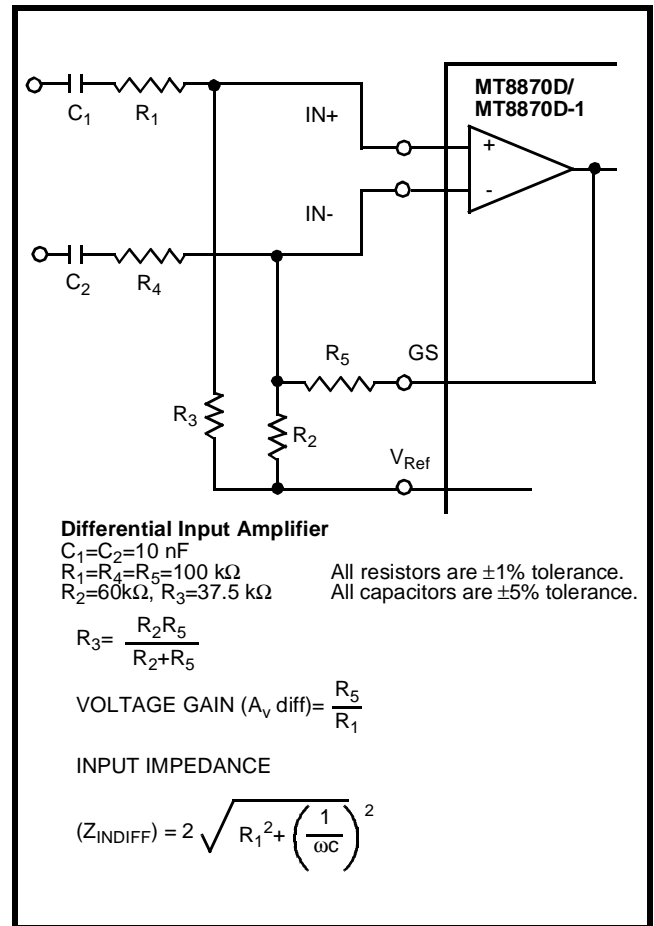

Figure 6 - Differential Input Configuration
| 4 | 4 | V _{Ref} | Reference Voltage (Output). Nominally V _{DD} /2 is used to bias inputs at mid-rail (see Fig. 6 and Fig. 10). |
The input arrangement of the MT8870D/MT8870D-1 provides a differential-input operational amplifier as well as a bias source (V_{Ref}) which is used to bias the inputs at mid-rail. Provision is made for connection of a feedback resistor to the op-amp output (GS) for adjustment of gain. In a single-ended configuration, the input pins are connected as shown in Figure 10 with the op-amp connected for unity gain and V_{Ref} biasing the input at $\frac{1}{2}V_{DD}$. Figure 6 shows the differential configuration, which permits the adjustment of gain with the feedback resistor R_5 .